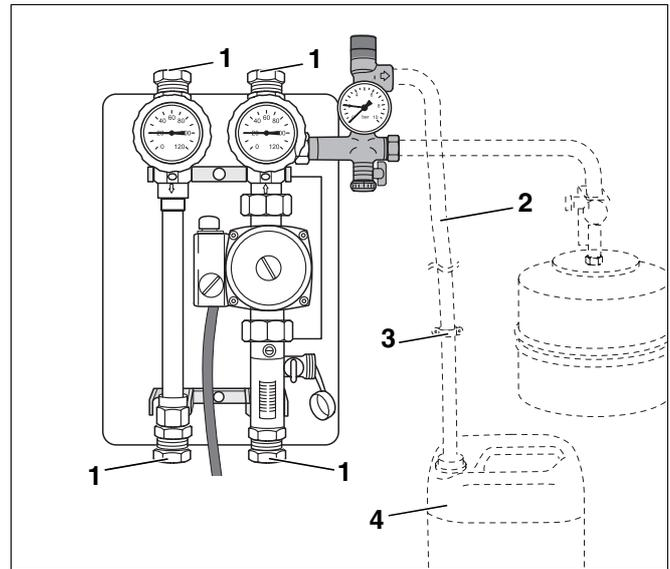

Fig. 9 Solar pump station connections
- ▶ Connect the pipes to the collectors and to the cylinder via compression fittings (Fig. 9, **Item 1**). Prevent components from twisting.
- ▶ Run a pipe (Fig. 9, **Item 2**) from the exit opening in the safety valve to the container (Fig. 9, **Item 4**) and secure it.